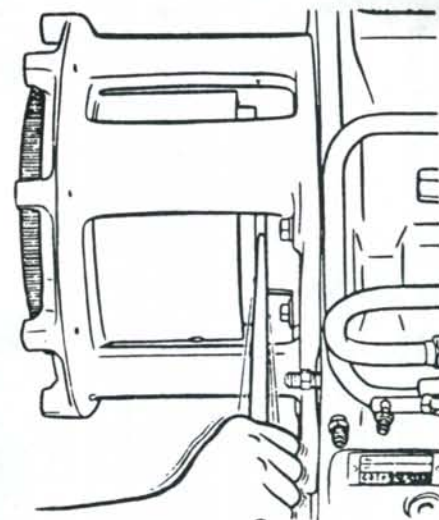

Fig. 166—Pry power shift assembly out of carrier as shown.
165) from hub of ring gear. Remove snap ring (39) retaining bearing (40) to mainshaft. Install three $\frac{1}{4}$ inch 28 x 1-1/2 inch full thread bolts in bearing retainer (40 and 41). Using two levers at rear of ring gear assembly, pry against power shift carrier to remove ring gear assembly from mainshaft (Fig. 166). Inspect oil distributor ring bore in rear of power shift carrier after ring gear assembly is removed. Bore must be smooth and free of grooves or burrs.